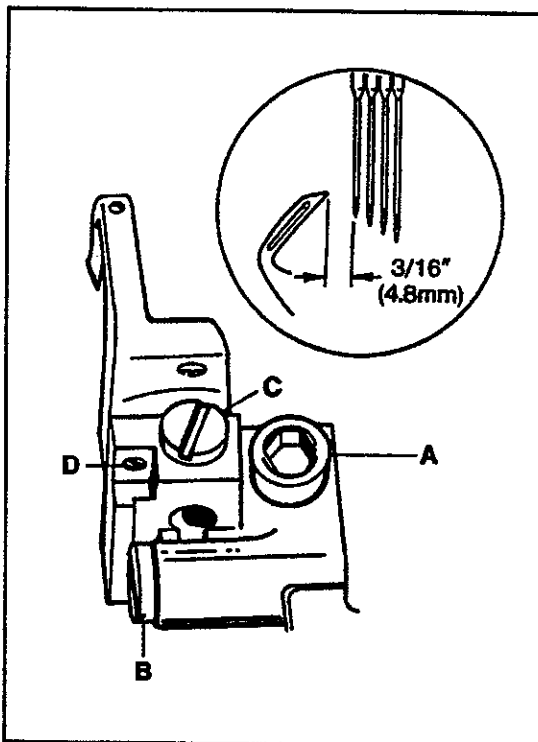

FIG. 14
Turn the handwheel in operating direction until the looper has traveled fully to the left. Loosen screw (A, Fig. 14) and move the looper holder to the right or left until the distance from the point of the looper to the center of the first (left) needle is $3/16$ " (4.8mm). Clearance between the looper point and the scarf of the needle must not exceed $.002$ " (0.05mm). Turn screw (B) until the $.002$ " (0.05mm) dimension is achieved. Tighten screw (A).
A clearance of $.018$ " to $.025$ " (0.46mm to 0.64mm) should be maintained between the top of the looper and the bottom of the stitch tongue. Loosen screw (C, Fig. 14) and turn screw (D), directly under the looper, up or down as required. Make sure the looper is seated and tighten screw (C). Check for clearance.